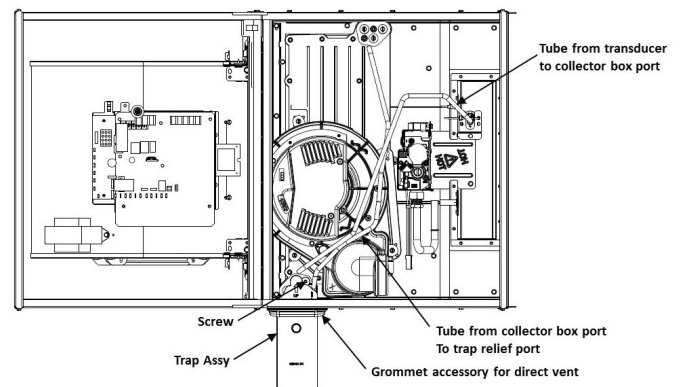

Fig. 20 – Horizontal Right - Trap Assembly Aid A200067
1. Accessory Horizontal Installation Kit (trap grommet) is required for all direct-vent horizontal installations (only). The kit contains a rubber casing grommet designed to seal between the furnace casing and the condensate trap. (see Fig. 20).
5. Attach trap to collector box using provided 3/8" (9.5 mm) machine screw (Fig. 20).
- b. Remove the factory-installed cap from the relief port on the trap and run tube from port on the collector box corner opposite of the trap to the relief port on the trap (see Fig. 20). If the tube is too long, cut any extra length from the tube. In the installed position, the transducer tubing should be in the lower pressure port and the relief tubing should be in the higher port.